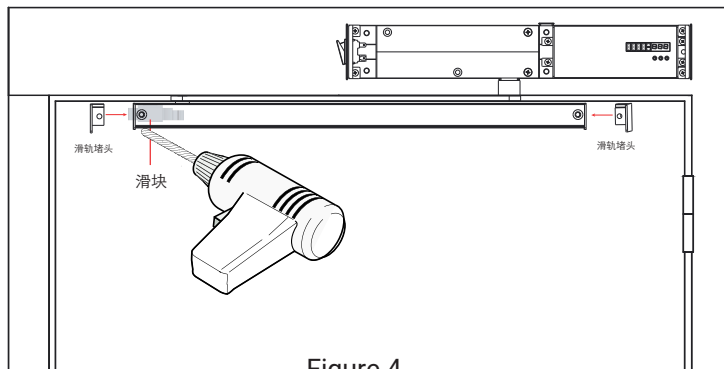

Figure 4
Step 4: Close the door, install the slide rail plug, and place the slider at the end of the slide rail, as shown in Figure 4. Then mark the screw hole position, open the hole, and fix the screw.